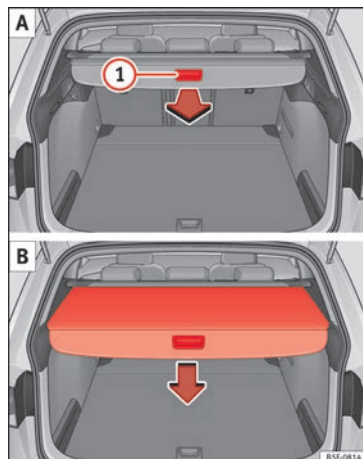

Fig. 161 In the luggage compartment: retracting or pulling out the rear shelf.
- Pull evenly on the rear shelf using its handle » **Fig. 161 1 A** in a backwards direction until it audibly clicks into place.
- Press the handle of the rear shelf in the direction of the arrow to release it » **Fig. 161 1 B**.